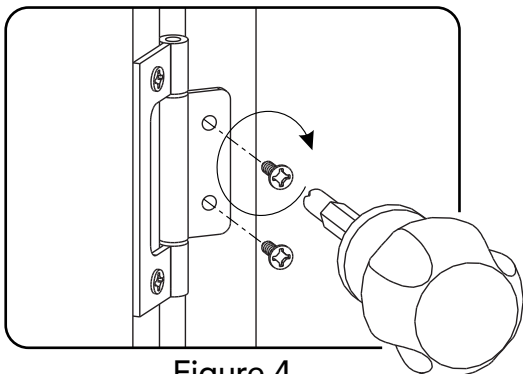

Figure 4
Attach Doors (U) and (V) to unit with Flat Head Screws (small). (See Figure 4)